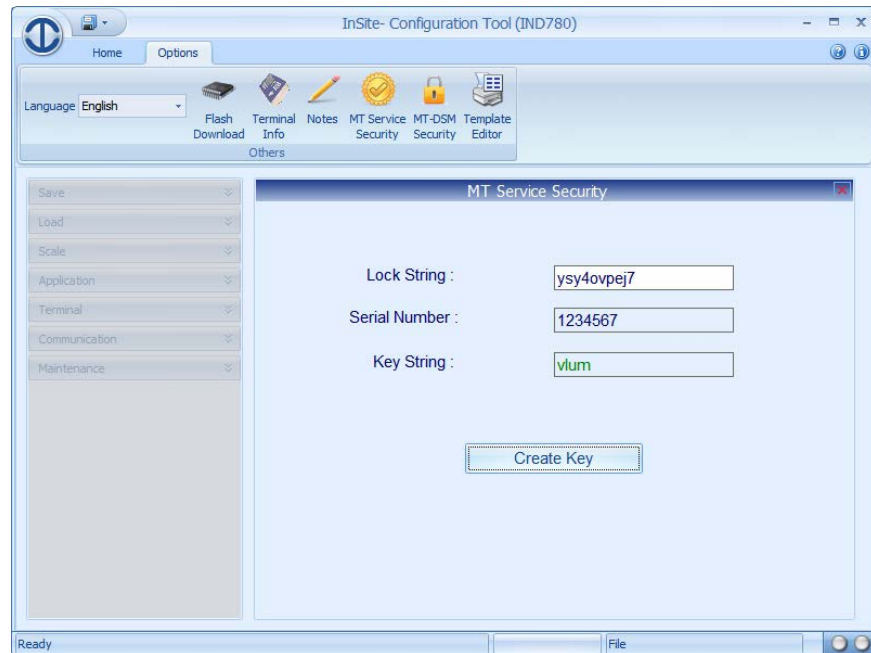

Figure 3-179: InSite Create Key String Screen
6. Referencing the Lock String, use an authorized version of InSite to create the matching Key String. In Figure 3-179, once the Lock String has been entered clicking the Create Key button will generate a Key String.